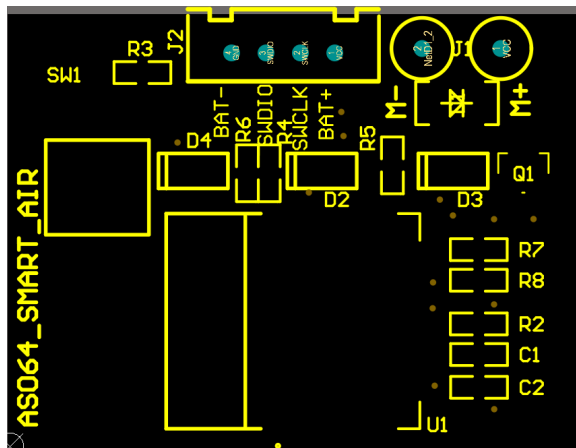

Figure 8. Top Silkscreen Overlay
- Figure 8. Top Silkscreen Overlay 7